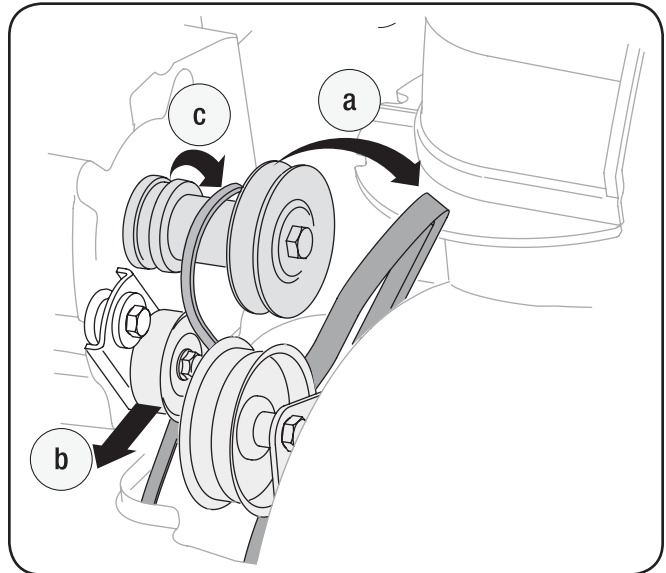

Figure 7-6
3. Remove the belt as follows (See Fig. 7-6):